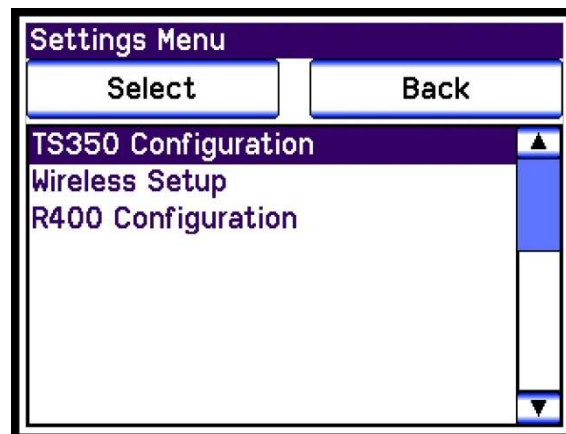

Figure 14
- R400 Configuration (**Figure 14**) – This option is only shown if a R400 board is connected. See the R400 I/O board for TS350 installation manual for more information.